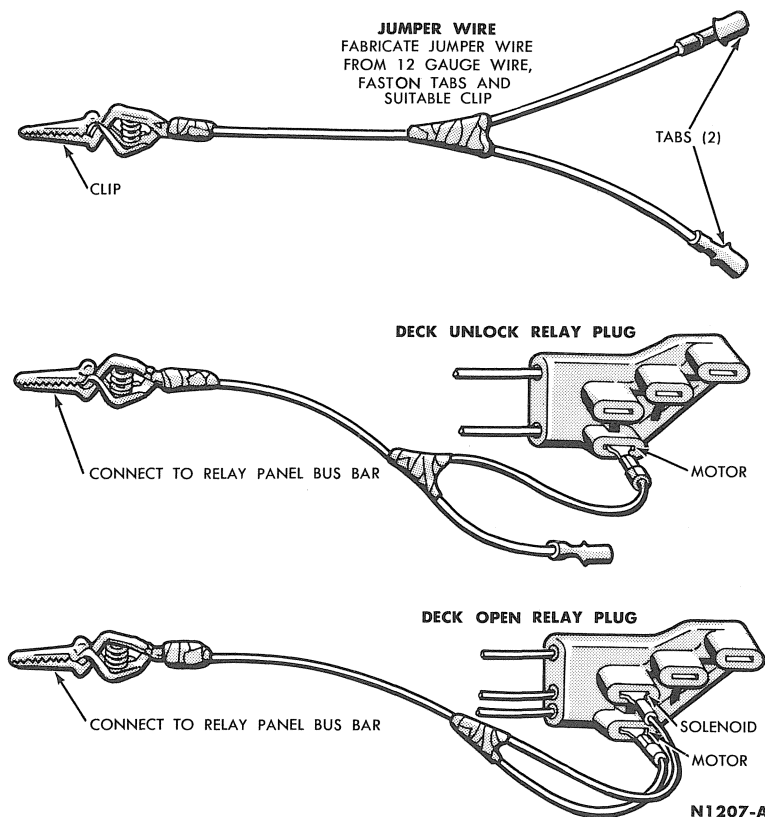

Fig. 3-18—Alternate Electrical Method of Opening Deck Lid
2. Remove the multiple plug from the deck unlock relay (Fig. 3-18).
3. Fabricate a jumper wire as shown in Figure 3-18. Energize the
deck unlock motor through the disconnected multiple plug and the relay panel bus bar with the jumper wire (Fig. 3-18).
5. If the deck lid will not open after being unlocked, remove the multiple plug from the deck open relay located behind the rear seat-back. Energize the deck motor and pump assembly through the deck open relay plug with the use of the jumper wire (Fig. 3-18).